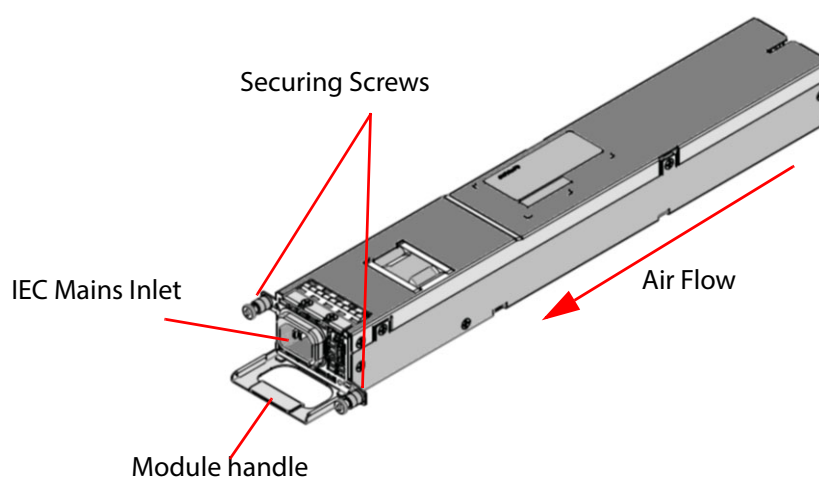

Fig. 6-3: MV-821 Multiviewer PSU Module (Grass Valley stock code FGAMV 820-PSU)
- 3 Carefully pull the PSU module out of the MV-821 chassis, using the PSU handle, see Figure 6-3.